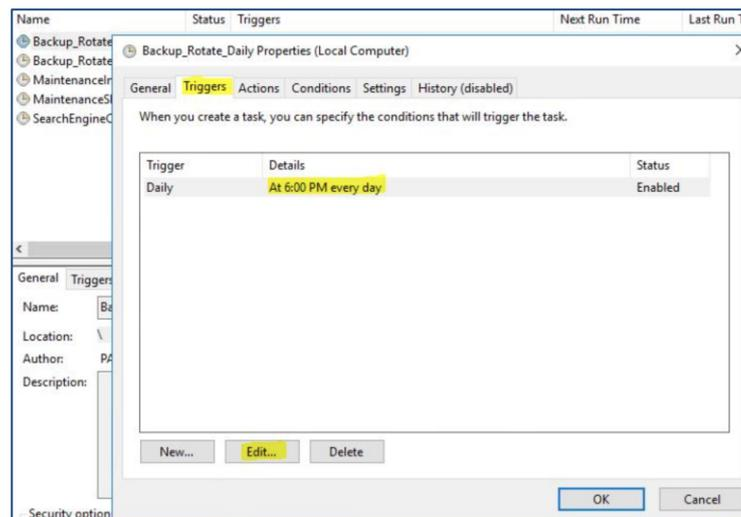

Figure 12. Windows Task Scheduler – **Backup_Rotate_Daily Properties** – Triggers window
2. Navigate to **Triggers** tab, select the **Details** of the Trigger, and click **Edit** as per Figure 12.